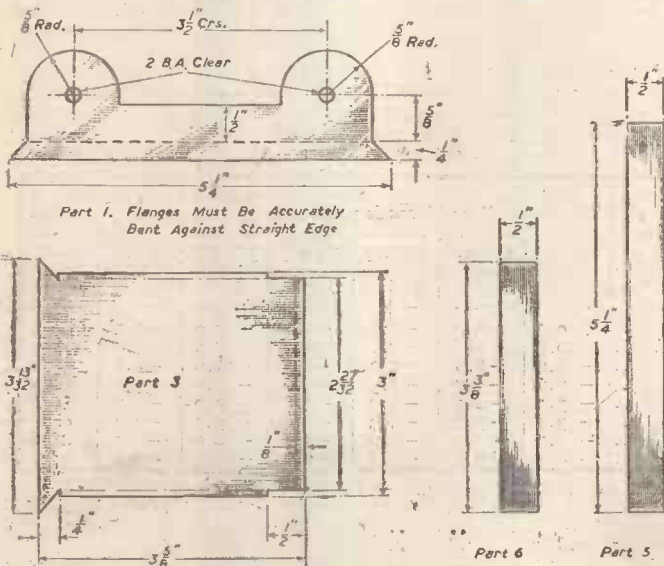

Fig. 4.—Details of side plates, and blank for forming cylindrical cover.
These are each numbered (3) and their shape, in the flat, is shown in Fig. 4. The curve in each was obtained by bending over a brass tube of $1\frac{1}{4}$ in. diameter.